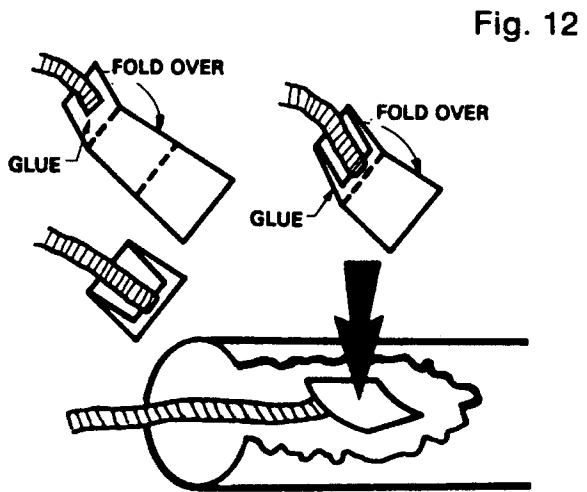

Fig. 12
14. Cut out the shock cord mount from the pattern sheet. Construct the mount as shown Fig. 12; folding the panels of the mount so that the shock cord rolls with it. Spread glue on the folded side of the mount and insert it into the front of the left main body tube at least 5 cm. Press it firmly against the wall of the tube.